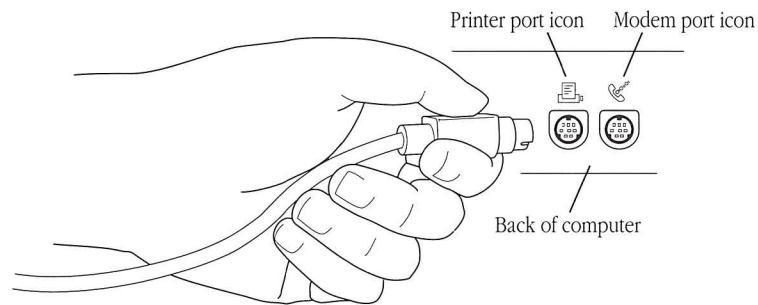

Figure 3-4 Connecting the printer cable to the Macintosh printer port
3. Plug the connector into the Macintosh printer port. (See Figure 3-4.) If another connector (such as LocalTalk) occupies the printer port, connect to the modem port.